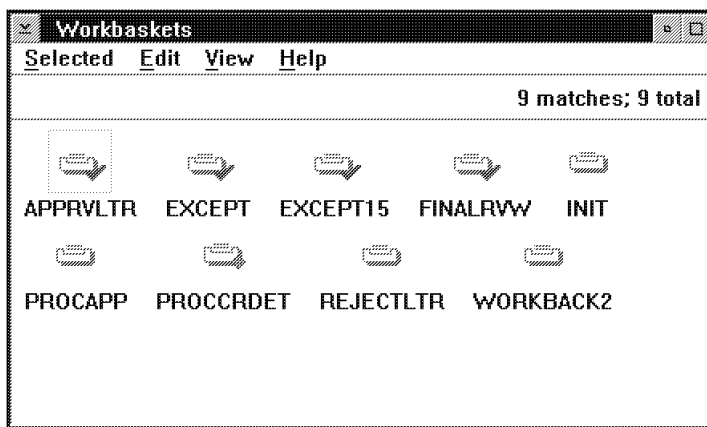

Figure 23. Workbaskets Container Window
In Work Management Builder, each workbasket is an object that is represented by a workbasket icon. These workbasket objects are defined and displayed in the Workbaskets container window. See Figure 23 for a sample Workbaskets container window.
1. Double-click on the Workbaskets icon in the Work Management Builder window. You can also select the Workbaskets icon, then select **Open** from the **Selected** pull-down. You see the Workbaskets container window shown in Figure 23.